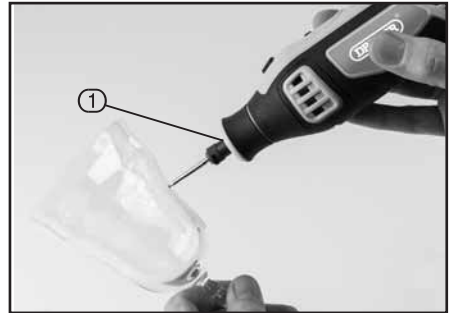

FIG.2
8.3 HOLDING THE TOOL - FIGS. 2 - 3